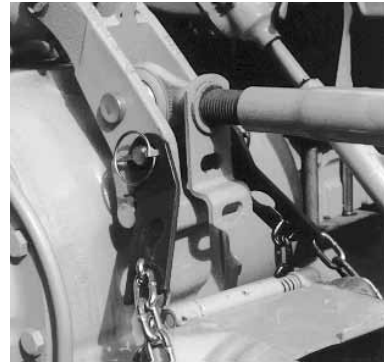

figure 1
3. Pin 2 keyhole plates to the tractor toplink with pins from the tractor (figure 1).